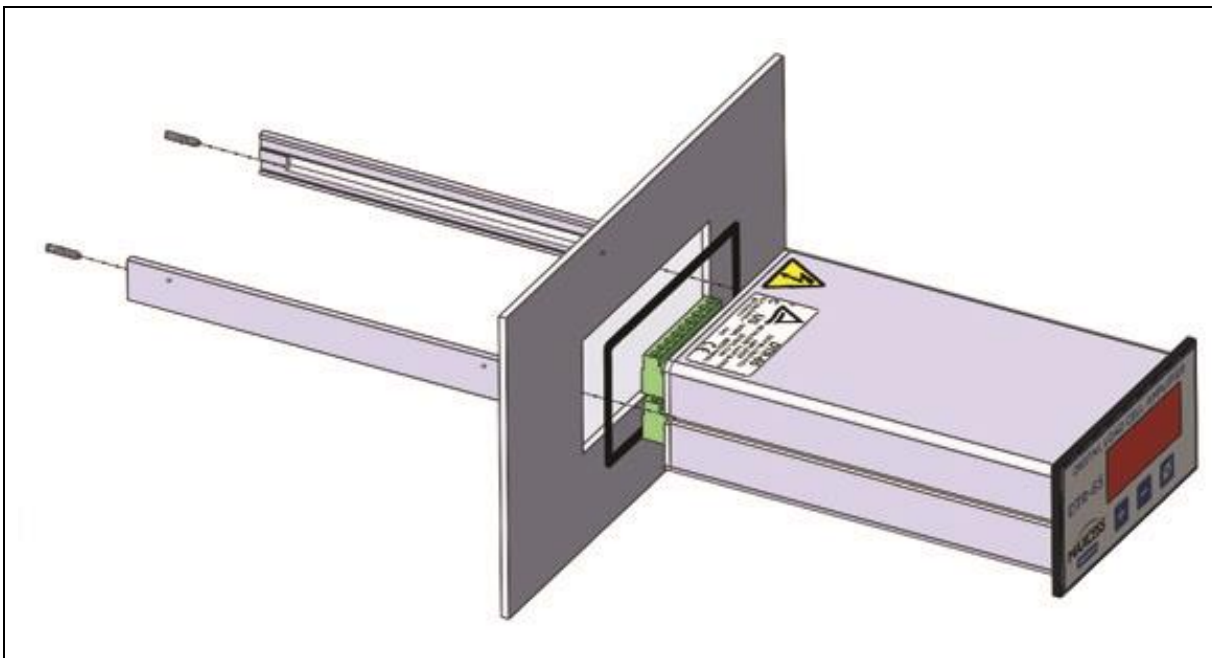

Figure 2. Installation of the DTR-65 into a panel.
2. Install the DTR-65 into a standard 1/8 DIN cut-out 92 x 45 [3.62 x 1.77] (Figure 1). Make sure the gasket is between the DTR-65 front panel and the panel into which the DTR-65 is being installed to maintain the IP-65 rating on the DTR-65 front panel (Figure 2, page 3-3).